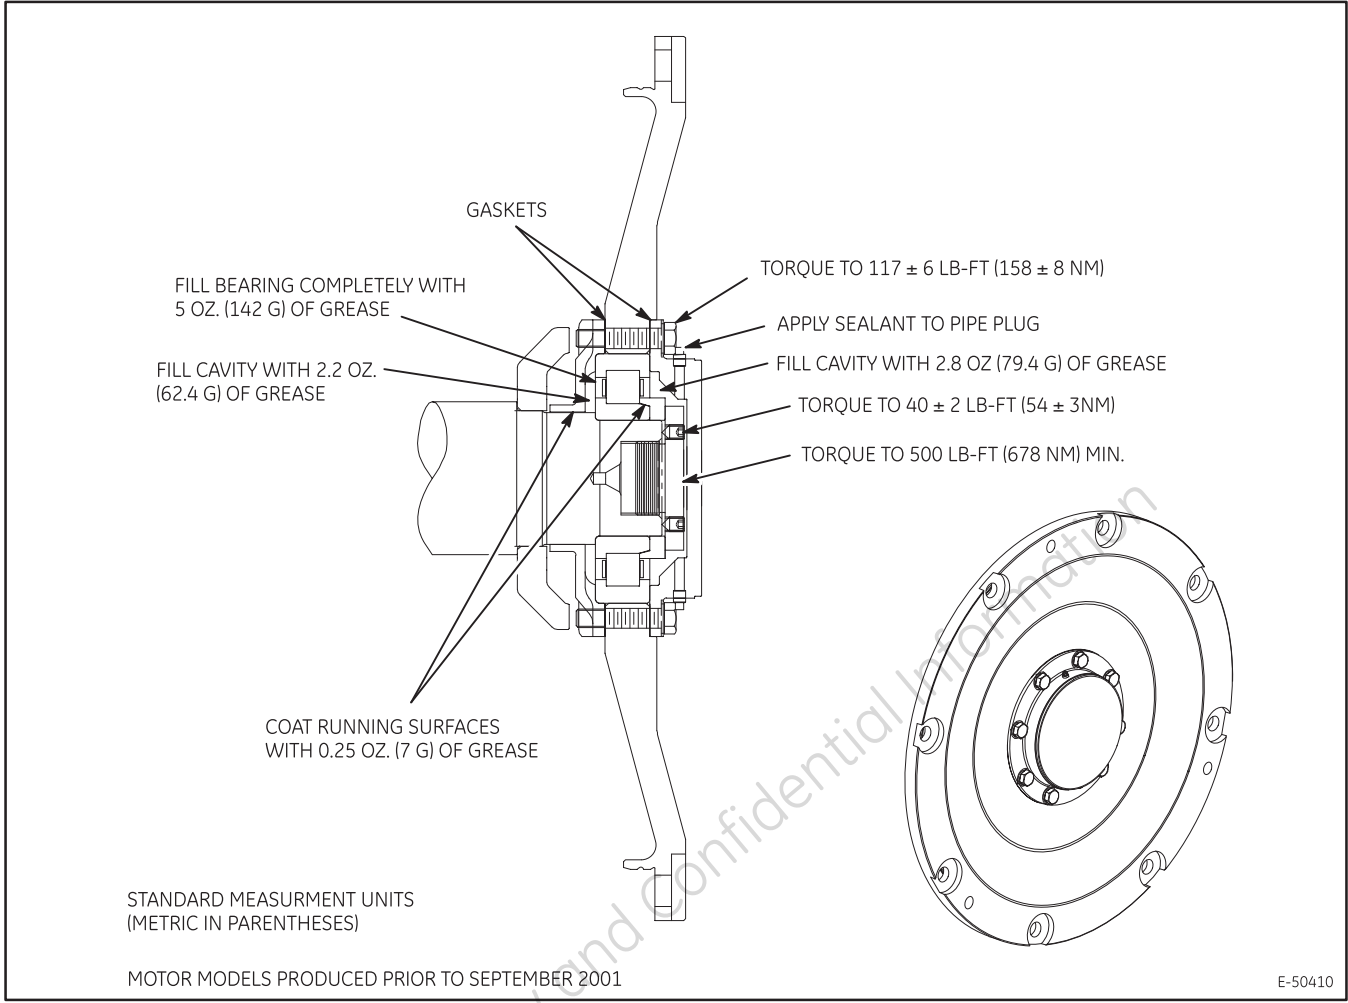
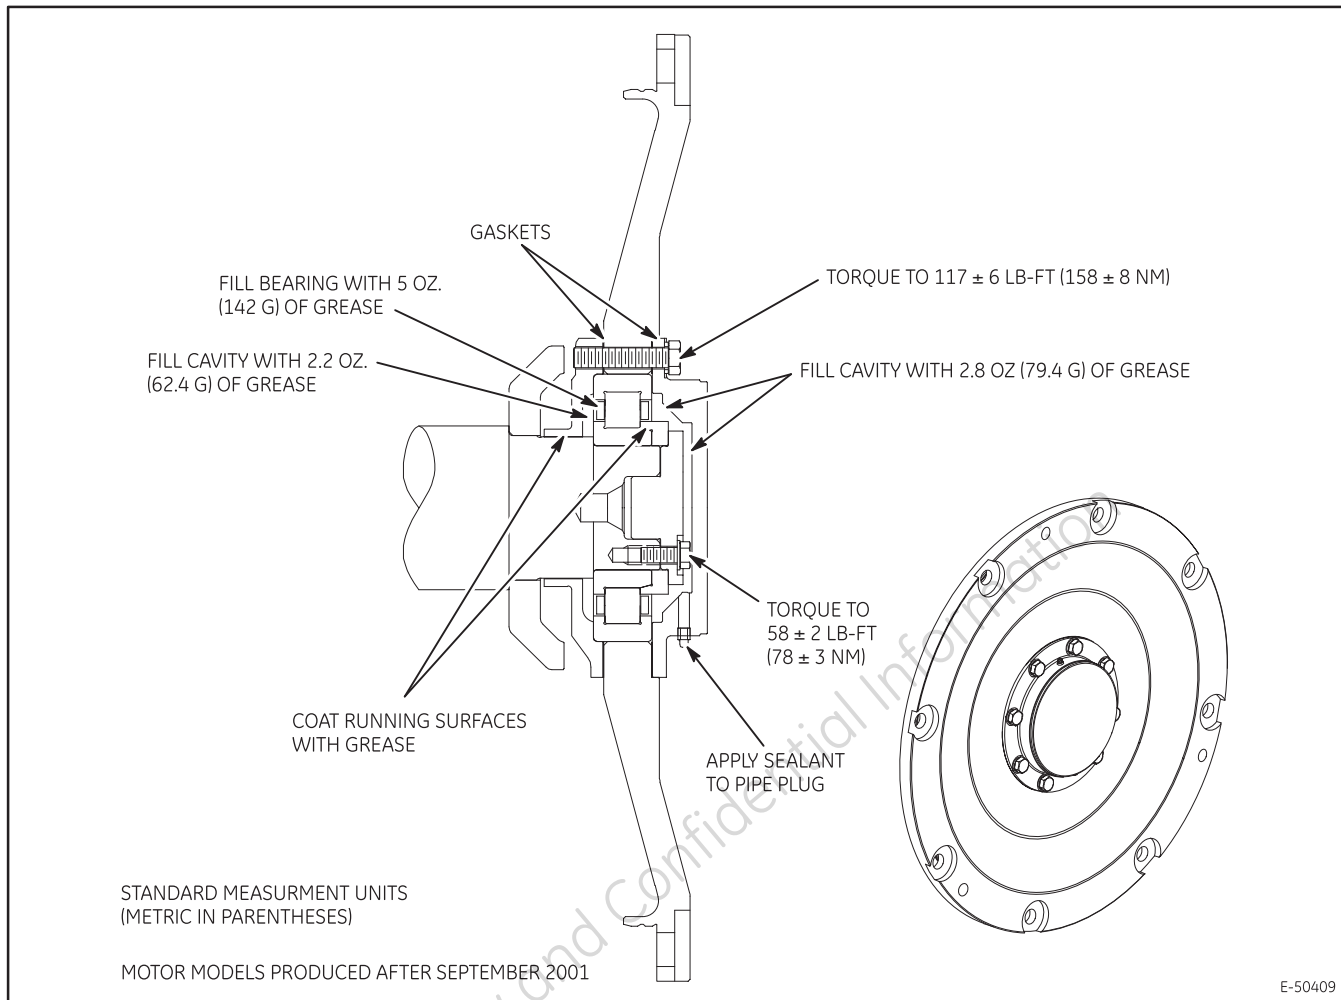

Figure 8. Connection End (CE) Bearing Assembly for Models Manufactured Prior to September 2001.
Figure 9. Connection End (CE) Bearing Assembly for Models Manufactured After September 2001.
There are two Connection End (CE) bearing assemblies used for the 5GEB22 models. Models of the 5GEB22 manufactured prior to October, 2001 use the original design CE bearing assembly as shown in Figure 8 . 5GEB22 models manufactured after September, 2001 ( Figure 9 ) use an enhanced performance CE bearing assembly. Refer to section 6.2. *DRILL MOTOR COMPONENT IDENTIFICATION* in this publication for details of differences in the CE bearing designs. The following sections describe the CE bearing removal for both designs of CE bearings. Select the removal procedure appropriate for the bearing design on the drill motor.